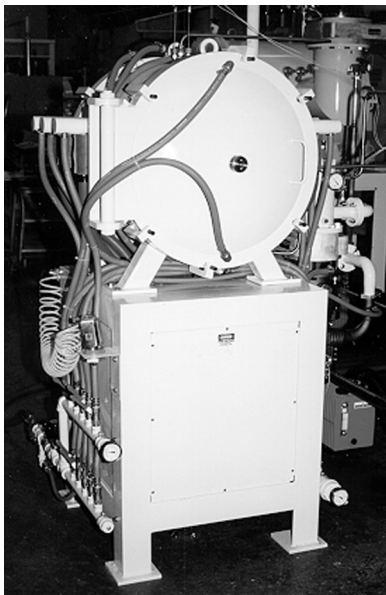

Figure 10.1 A vacuum furnace equipped with a quick quench fan using inert gas. (*Courtesy of Thermal Technology Inc.*)
3. The 2100° to 2350° F (1150° to 1290° C) required to heat treat high speed steels takes its toll on firebricks or standard refractory insulation used in standard box type furnaces. The result will mean replacing thermocouples and rebuilding the furnace more often. Vacuum furnaces such as the one shown in Figure 10.1 are constructed with water or gas cooled chambers that require no insulation.